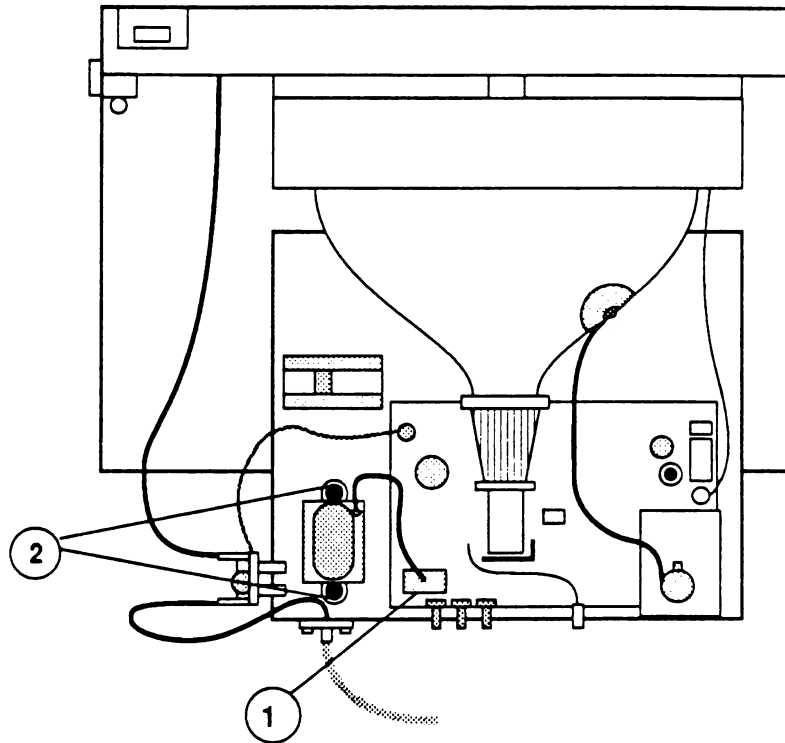

**FIGURE 21**
4. Disconnect the red pair of wires from T2 on the main electronics assembly (Figure 21, #1).
6. Remove the two transformer mounting screws (Figure 21, #2) and lift off the transformer.